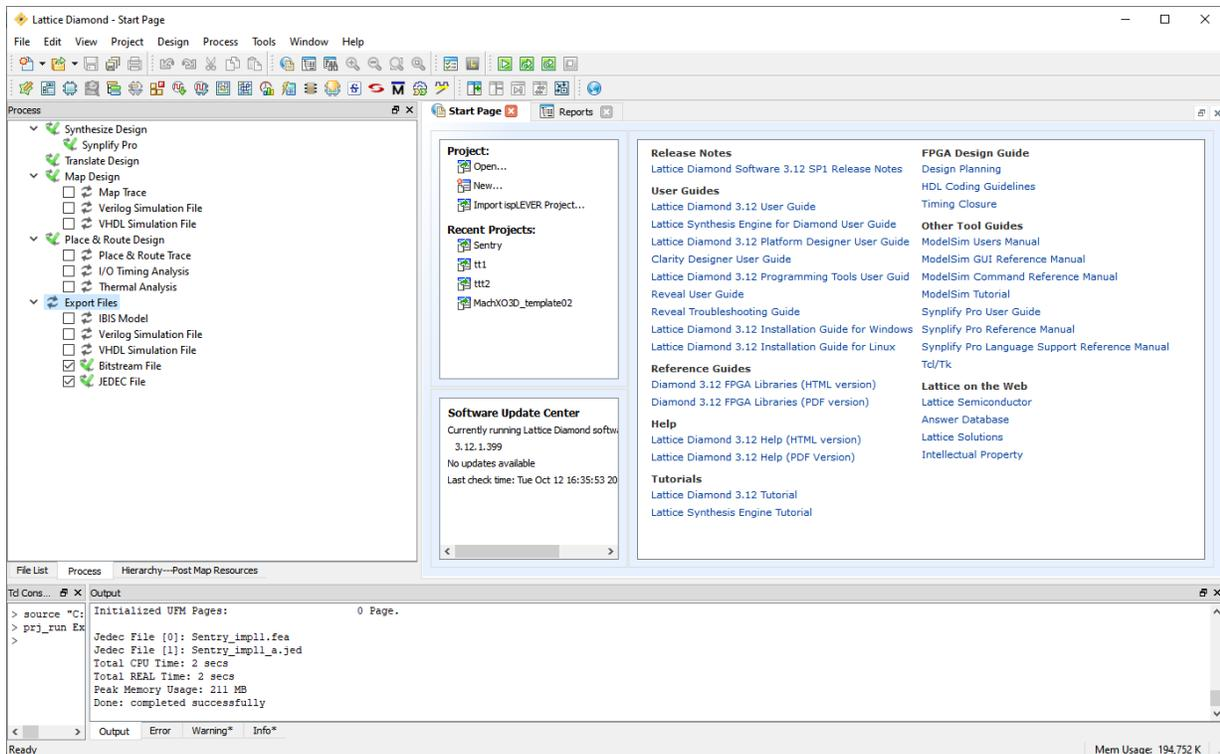

Figure 2.78. Generate Programming Files
- e. Switch to **Process** view of the Diamond project (Figure 2.78). Make sure at least one programming file (IBIS Model, Verilog Simulation File, VHDL Simulation File, Bitstream File, or JEDEC file) is selected in the **Export Files** section. Available programming files can be different upon specific device included.